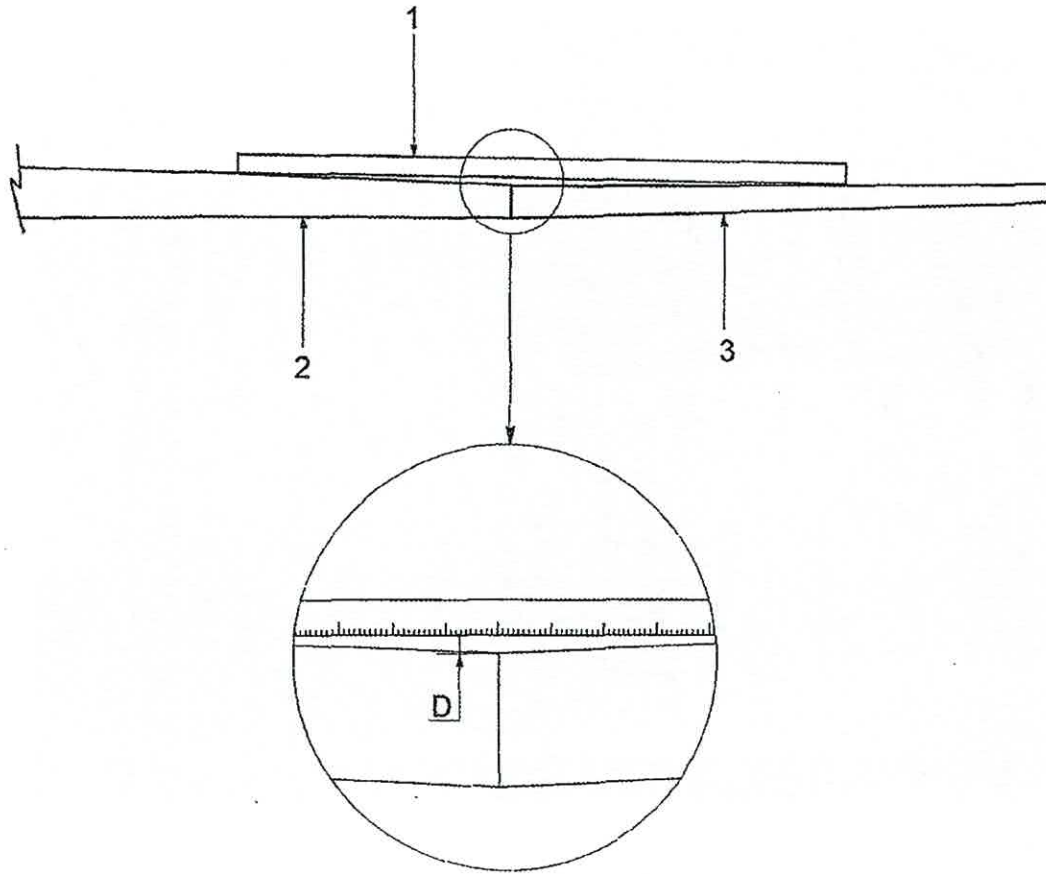

Figure 3
- Measure clearance "D" between the ruler (1) and the blade/tip cap junction, as shown on Figure 3.